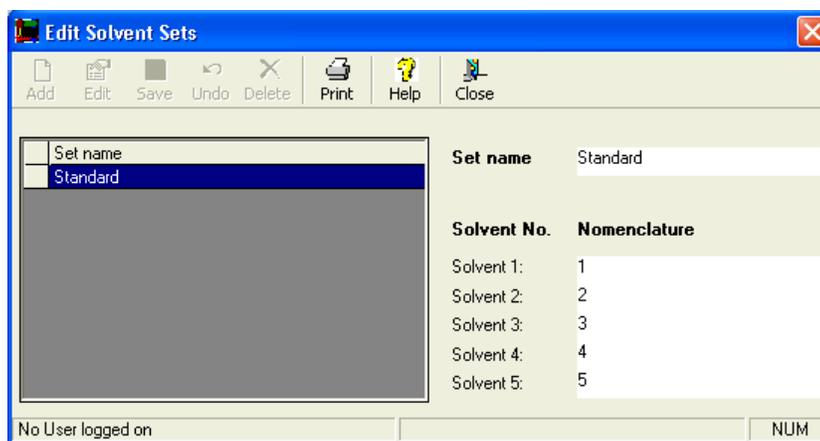

Figure 57. Edit Solvent Sets Window
- 1 From the AutoTrace main menu, choose **Data**→**Name Solvents**. The Edit Solvent Sets window opens, as shown in Figure 57.